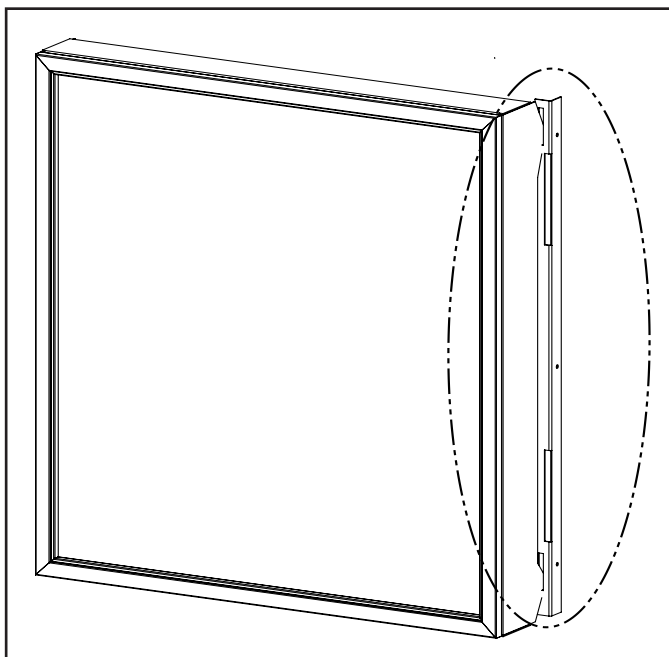

Figure 63: Installing Safety Screen onto Cabinet Bracket (Parts removed for clarity)
2. Lift the face upright in front of the fireplace with the four (4) hooks pointing towards the fireplace. Slide the hooks into the corresponding brackets on each side of the cabinet (see Figure 63). Ensure the hooks are secure before releasing the safety screen.